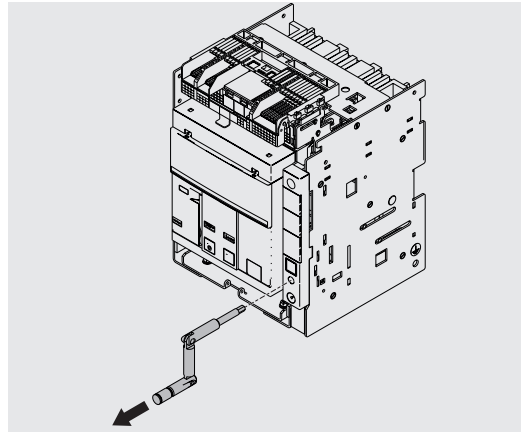

Figure 37
8. Extract the crank. See Figure 37.